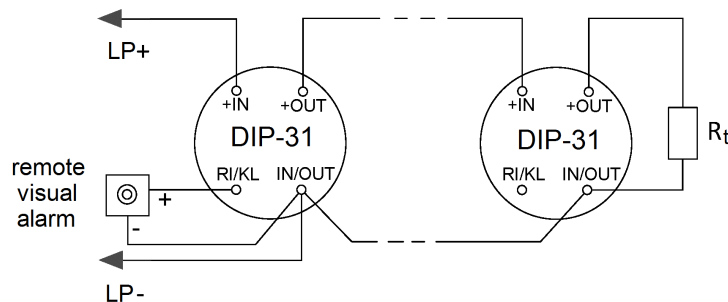

Figure 6
6.1 The detectors, along with VUOS-31 remote indicators or without them, are electrically wired into the alarm loops of control and indicating equipment per the schematic shown in Figure 6.
6.2 While connecting the detectors into alarm loops of fire alarm and control units Signal-10, Signal-20P, S2000-4 and devices Signal-20M, S2000-ASPT as per Figure 6, the following types of alarm loops can be assigned: